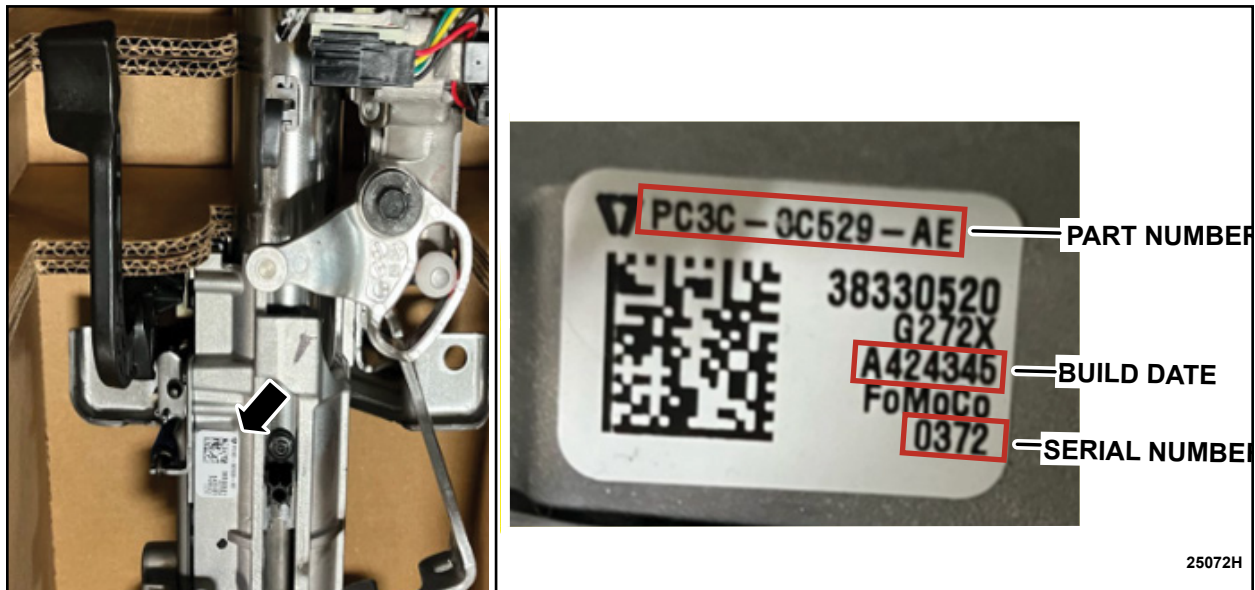

FIGURE 1
2. Inspect for a barcode label, located on the bottom of the steering column, near the rear driver side column retainer, in front of the knee bolster. Take a clear photo of the barcode label. See Figure 1.